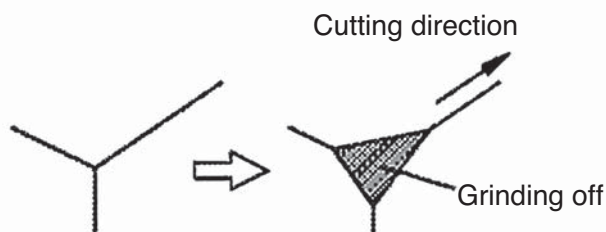
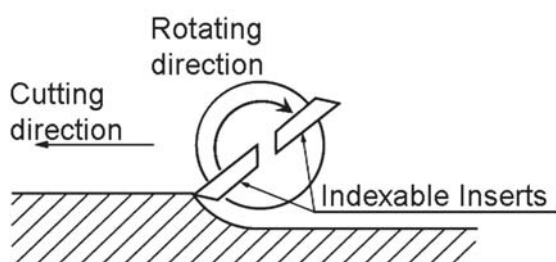

Fig.9
Fig.10
- If the initial cut is such an edge as in Fig. 9, before chamfering, grind the edge off. Initially cutting an edge will give a heavy shock to the Indexable Inserts. This can cause damage to the Indexable Inserts, malfunction of the tool, or injury to the operator.
- (1) Firmly hold the tool, release the lock lever, and depress the throttle lever to start the tool.
- (2) Place the Guide Plate on the workpiece, hold the Guide Roller against the workpiece, and slowly pull the tool towards you or push it forward to introduce the indexable inserts to the material. (Fig.10)